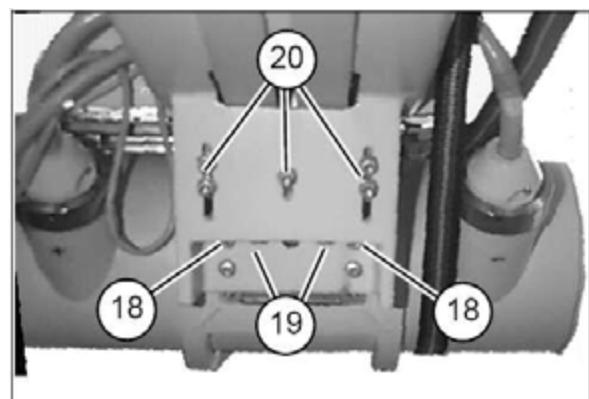
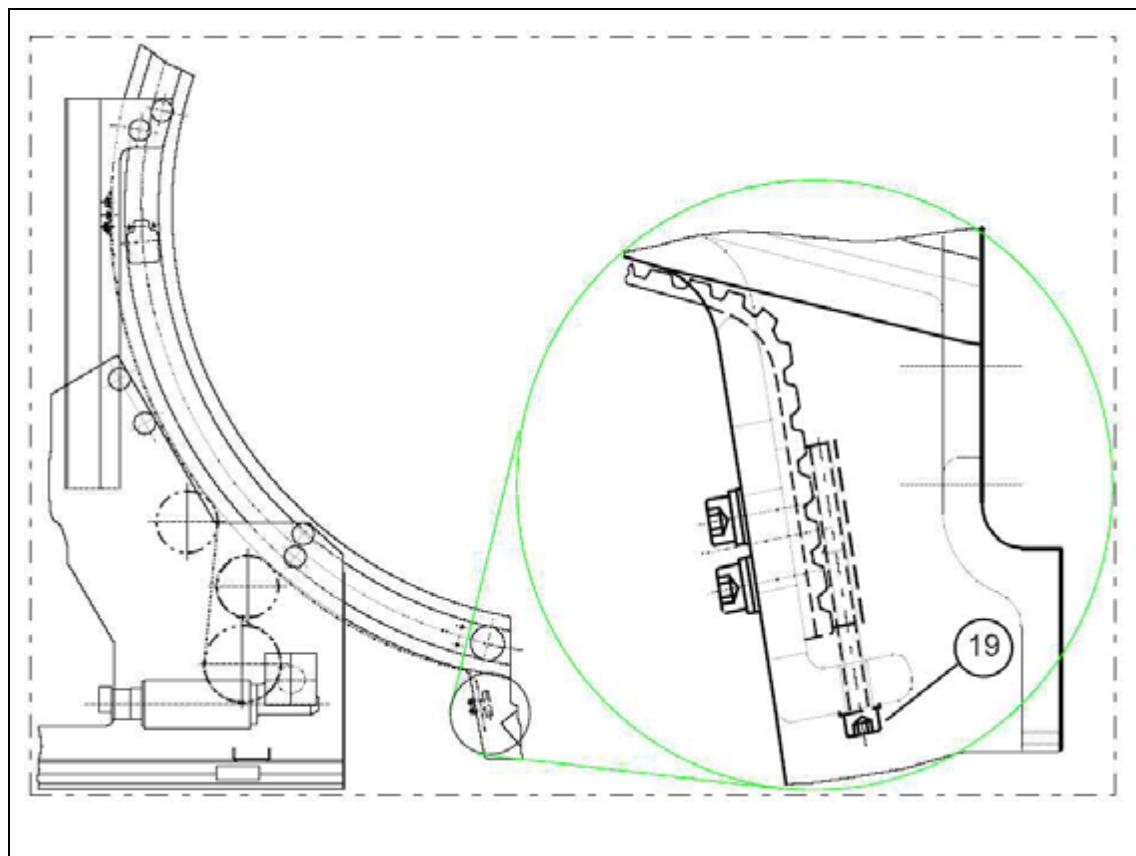

Fig. 39: X-ray tube assembly holder
Fig. 40: Toothed belt placement
- Remove both upper screws from the X-ray tube holder ((18/Fig. 39 / p. 66)).
- Remove both tensioning screws ((19/Fig. 39 / p. 66) and (19/Fig. 40 / p. 67)).
- Remove the 5 screws (\(20/Fig. 39 / p. 66\)).
- Position the clamp for securing the toothed belt with the threaded holes facing downward between the X-ray tube flange and insert the holder on the C-arm (\(Fig. 39 / p. 66\) and \(Fig. 40 / p. 67\)).
- Insert the 5 screws (\(20/Fig. 39 / p. 66\)) into the clamp and tighten only slightly.
- Insert the tensioning screws (\(19/Fig. 39 / p. 66\) and \(19/Fig. 40 / p. 67\)) into the clamp from below and tighten only slightly.
- Re-tighten both upper screws of the X-ray tube holder (\(18/Fig. 39 / p. 66\)).
- Route the toothed belt according to (Fig. 40 / p. 67).
- Tighten the toothed belt with both tensioning screws (\(19/Fig. 39 / p. 66\) and \(19/Fig. 40 / p. 67\)).
- Tighten the 5 screws (\(20/Fig. 39 / p. 66\)).